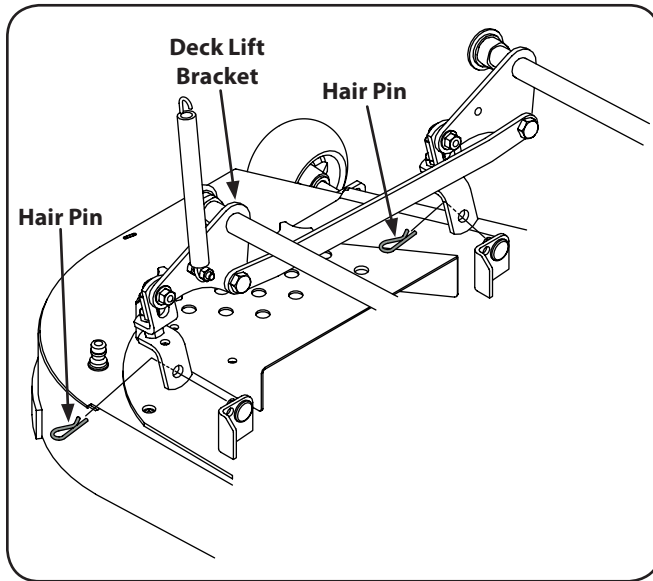

Figure 1-3
4. Remove the four hair pins from the right and left side of the deck lift bracket. See Figure 1-3.